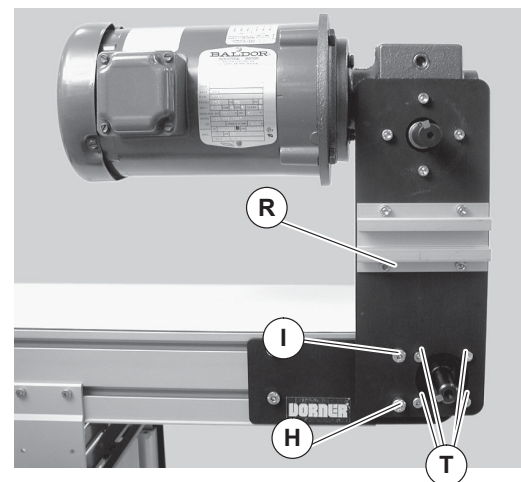

Figure 17
- d. Remove mounting screws (Figure 17, item H, I and T) and remove drive package (R).